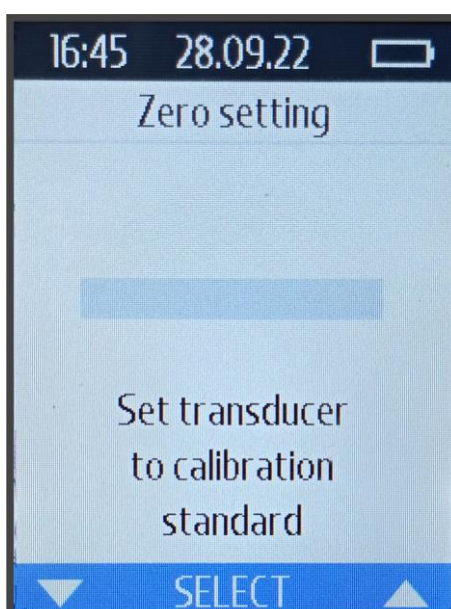

Figure 3.3 – Zero Setting
- select the "Setting Zero" tab in the menu (Fig. 3.3).